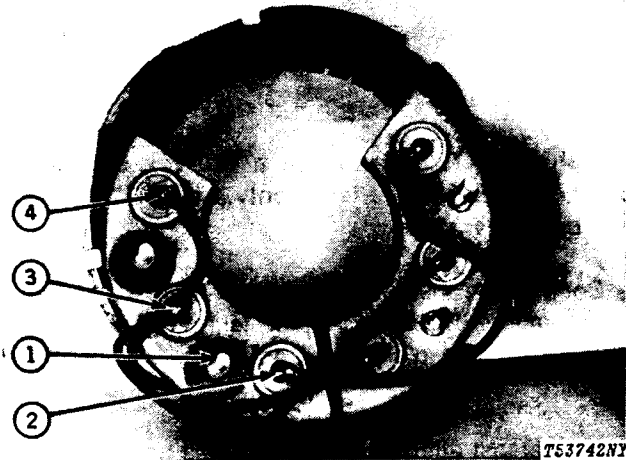

Fig. 33-In-Circuit Positive Rectifier Diode Test Points
To check positive diode assembly, connect tester to output terminal (1, Fig. 33) and to diode lead (2). Check remaining diodes (3 and 4) by the same method.